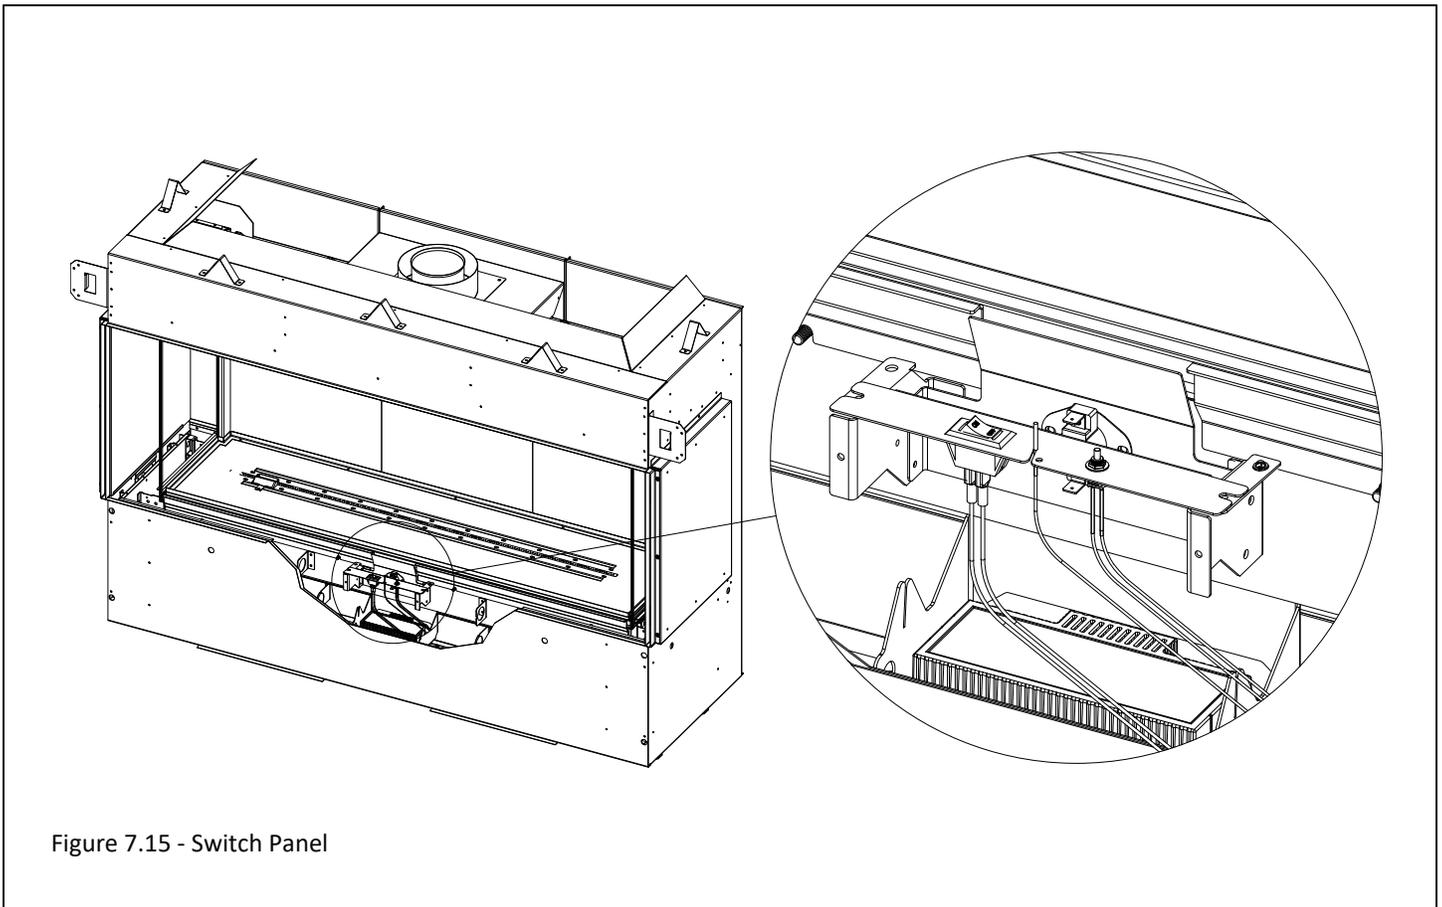

Figure 7.15 - Switch Panel
3. Remove the (2) sheet metal screws that secure the switch panel. Lift this panel off its support bracket and locate the slits in the control module brackets. Slide the switch panel into these openings to secure it during control board removal. Figure 7.15 and 7.16.